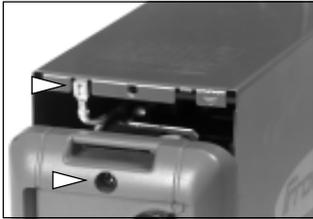

Fig.1
- Plug the earthing plug onto the housing and place the housing onto the unit (Fig. 1)
- Screw the plastic front and rear pieces onto the housing (Fig. 1)